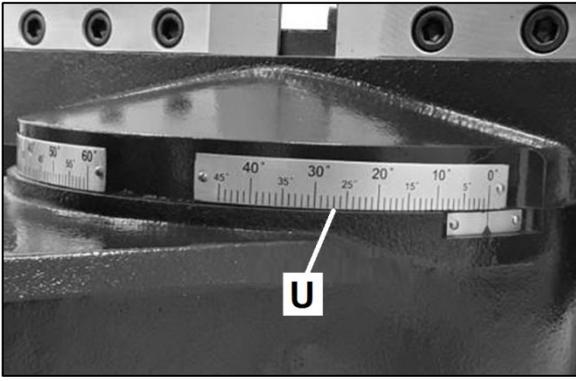

Figure 8-2: Mitre Scale
- Rotate the saw bow to the desired angle by following the scale (U, Fig 8-2).